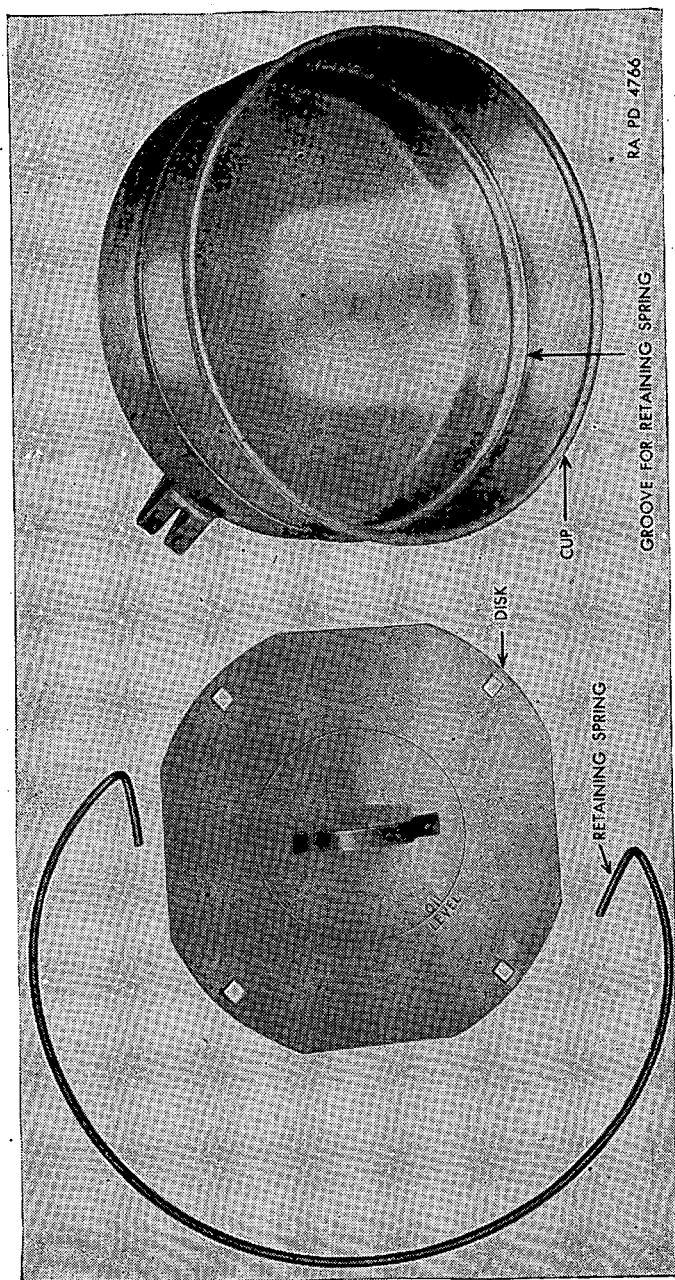

FIGURE 30.—Air cleaner parts requiring cleaning.
(4) Install throttle lever	Wrench, $\frac{1}{2}$ in., O. E. Pliers.	Place lever on carburetor throttle shaft, making certain that serrations slip into the same position as on removal. Install $\frac{3}{16}$ -in. hex-hd. nut and cotter pin.
(5) Connect fuel lines	Wrenches, $\frac{1}{2}$ in., $\frac{3}{16}$ in., $\frac{1}{16}$ in., $\frac{3}{4}$ in., O. E.	Connect fuel lines to carburetor.
(6) Install rocker arm oil scavenger line clamp	Wrench, $\frac{3}{16}$ in., O. E.	Install $\frac{3}{16}$ -in. hex-hd. nuts on stud of carburetor holding oil line clamp.
(7) Install carburetor air horn		See engine installation, par. 60b (14).
(8) Install inspection plate in floor of engine compartment		See engine installation, par. 60b (15).
(9) Open fuel valves at tanks
(10) Check all lines for leaks
(11) Adjust carburetor		See b above for carburetor adjustment.
b. Maintenance.—After each 25-hour period of normal use, or daily, when conditions are extremely dusty, the air cleaner will be serviced as follows (fig. 30) :
- (1) Loosen thumbscrews on cup retaining rods and remove cup.
- (2) Remove cup disk and retaining spring (fig. 30).
- (3) Empty oil and dirt and thoroughly clean cup, disk, and spring (fig. 30).
- (4) Carefully fill to oil level line with SAE 10 oil and replace cup disk and retaining spring.
- (5) Replace cup in cleaner and tighten retaining rod nuts.
c. Replacement.—(1) Loosen air cleaner outlet hose clamps and hose.